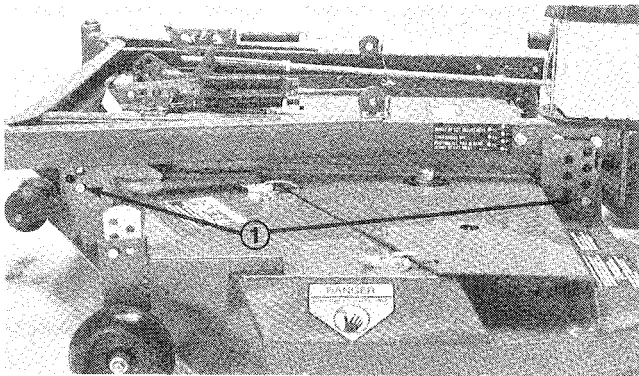

Figure 17
- A.** Cutting units usually operated at 1 to 2 in. height-of-cut should have the low side of the cutting unit raised. Remove the retaining ring securing castor wheel on low end (Fig. 17) and remove castor assembly.
move retaining ring of castor at high end of unit and remove castor assembly (Fig. 17).